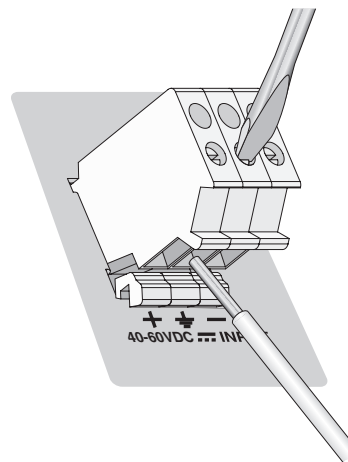

Figure 54 Inserting Wires into DC Terminal Block
4. Connect the power supply ground wire to the terminal marked with the ground symbol. Inserting the wire into the terminal and tightening the connection with a flathead screwdriver. See Figure 54.